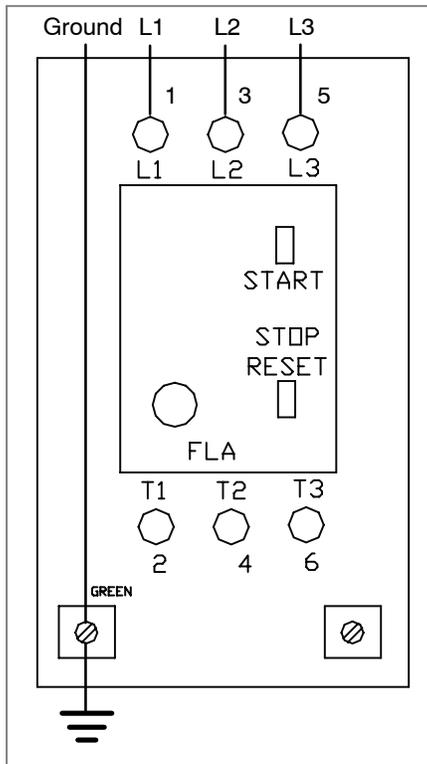

Figure 19
2. Insert line cord through grip (AJ) and tighten nut.
3. For correct three-phase motor shaft rotation, connect line phase sequence L1, L2 & L3 to terminals as shown (Figure 19).
NOTE: The motor ground wire is also attached to left terminal marked \perp (Figure 19).
4. Attach ground wire to lower left terminal marked \perp (see Figure 19).
6. Attach ground wire to lower left terminal marked \perp (see Figure 19).